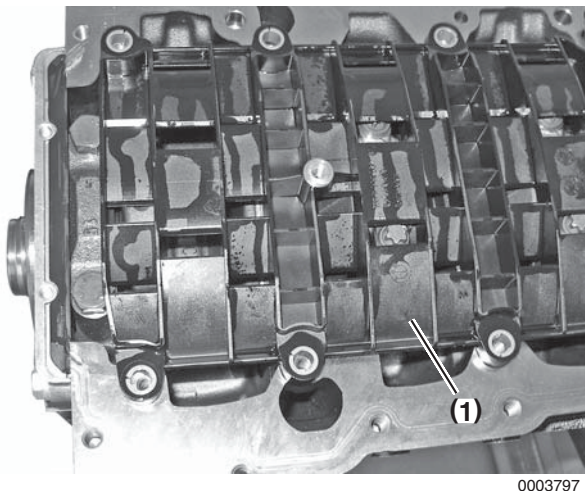

Figure 5-106
9. Remove oil deflector (**Figure 5-106, (1)**).